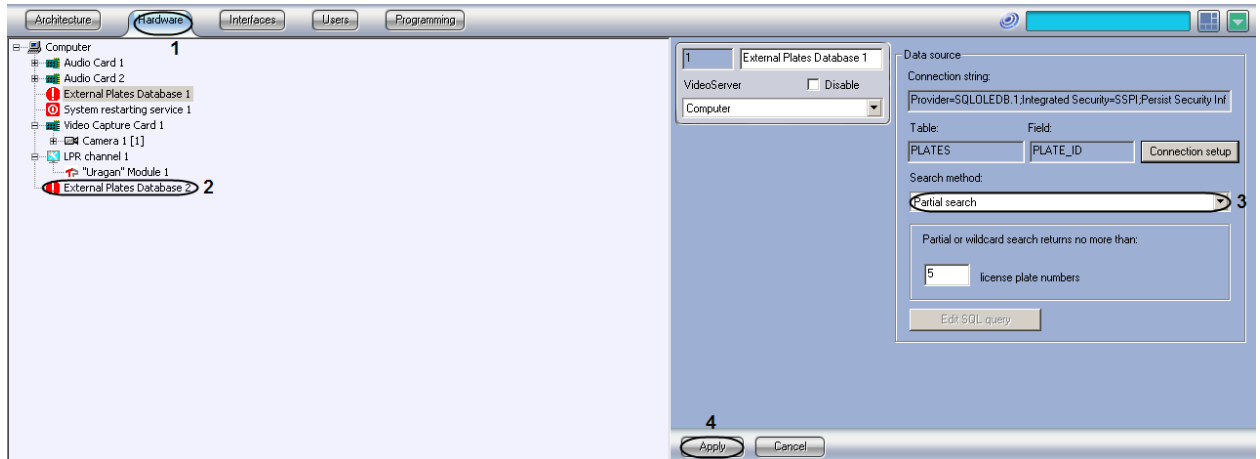

Fig. 7.5-10 Selecting the search method of the identified plates in the external DB
1. Go to Hardware tab of system settings dialog window (Fig. 7.5-10, 1).
2. Select the External Plates Database in the objects tree (Fig. 7.5-10, 2).
4. Table 7.5-2) from the list Search method (Fig. 7.5-10, 3)
5. Click Apply (Fig. 7.5-10, 4).